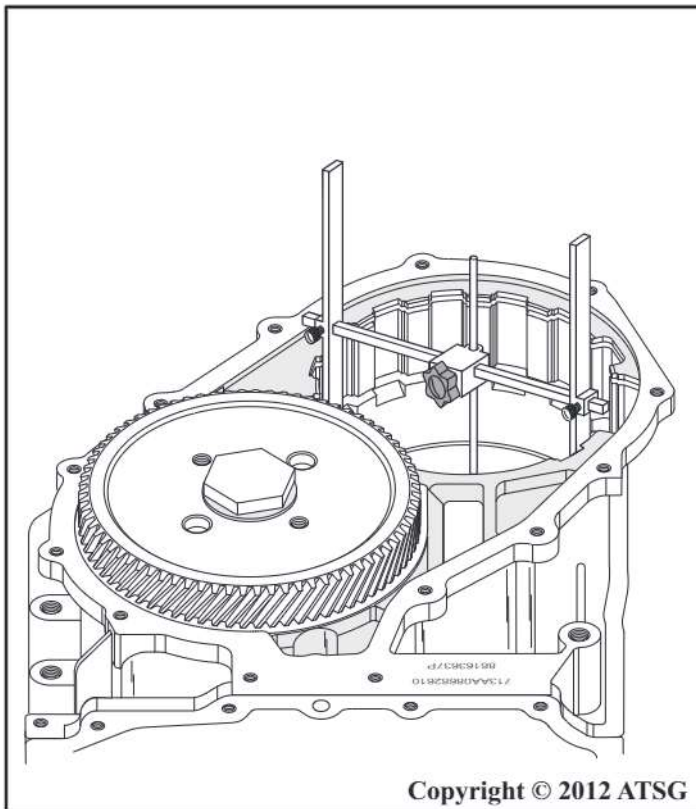

Figure 229
3. Install "H" gage into transaxle case against the surface where the low clutch housing rests, as shown in Figure 229 and 230.